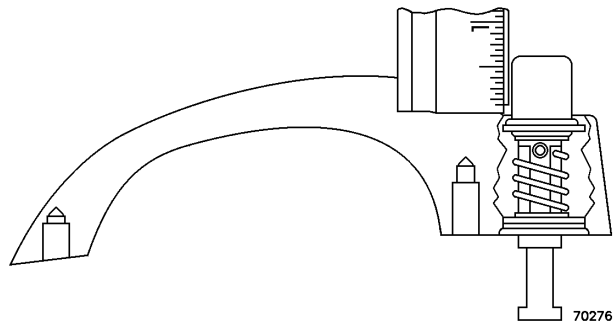

FIGURE 2-5. MEASURING TRAVEL DISTANCE OF PLUNGER
1. Determine the amount of free play in the door release plunger by pushing in on the plunger until it just contacts the door release mechanism. Measure the distance that the plunger travels from this position to where the plunger is fully released (See Figure 2-5).